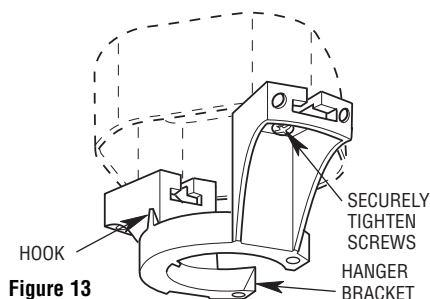

Figure 13
- 2. Slide the hanger bracket onto the outlet box screws. Center the bracket over the outlet box and then securely tighten the screws (Figure 13).